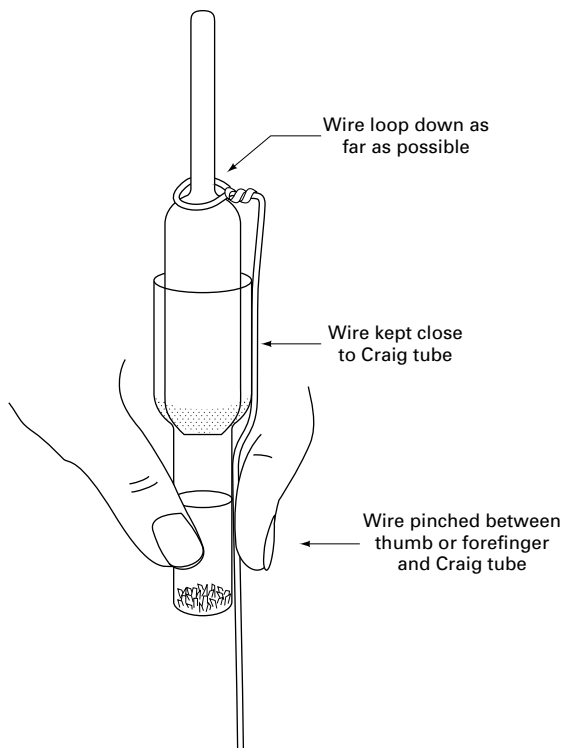

FIGURE 14.3 Wiring the Craig tube.
5. Hold the bottom of the Craig tube between your thumb and forefinger. Put the loop over the end of the tube (Fig. 14.3).
6. Hold the wire gently between your thumb (or forefinger) and the glass tube bottom. Grip the hanging wire, and gently pull it downward so that the Craig tube top is pulled into the bottom (Fig. 14.3). Too much force here and you could snap the stem. Watch it.